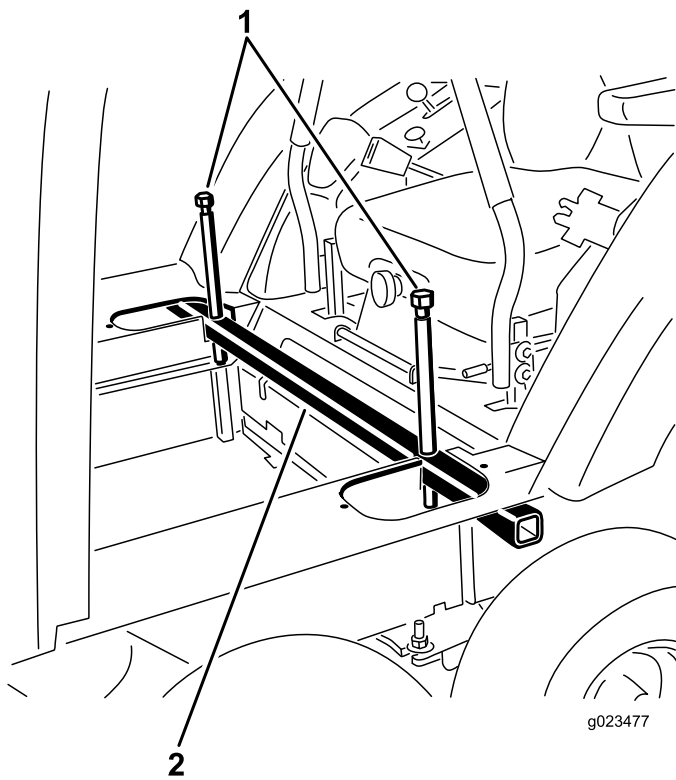

Figure 24
11. Lower the cab into position by slowly and evenly loosening the jacking bolts on each end of the jacking tube (Figure 24).